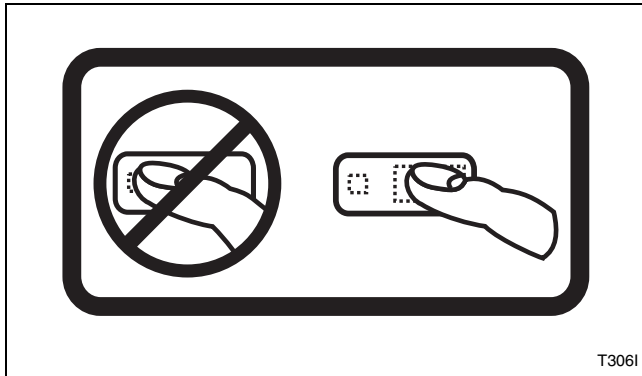

Figure 10
**NOTE: Do not press directly on lights or the center of pad. For proper selection, press on pad slightly to the right of center. Refer to *Figure 10*.**